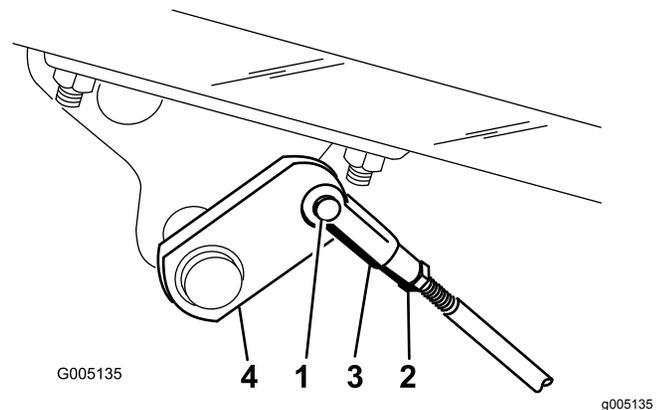

Figure 46
- A. Disconnect the brake rods by removing the cotter pin and clevis pin (Figure 46).
- B. Loosen the jam nut and adjust the clevis accordingly (Figure 46).
- C. Assemble the clevis to the brake shaft (Figure 46).